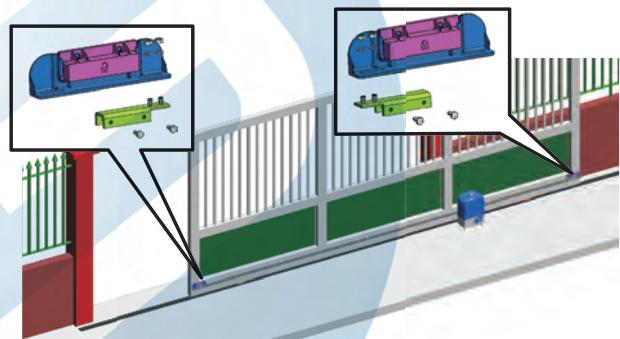

Fig. 18
The operator has a magnetic limit switch, which commands gate motion to stop when the magnet, which is secured to the upper part of the rack, activates the sensor. The magnets supplied with the operator are specifically polarised and activate only one of the sensor's contacts: the closing or opening contact. The magnet activating the open gate contact bears an open padlock symbol, and, vice versa, the magnet activating the closed gate contact bears the closed padlock symbol (see Fig. 18). Procedure for correct positioning of the two travel-limit magnets:
- ① Assemble the two magnets as shown in Fig. 18.